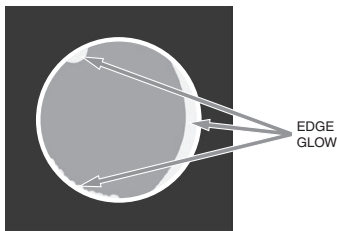

FIGURE 3-2. EDGE GLOW
(2) Edge Glow. Edge glow is a bright area (sometimes sparkling) in the outer portion of the viewing area (see Figure 3-2).